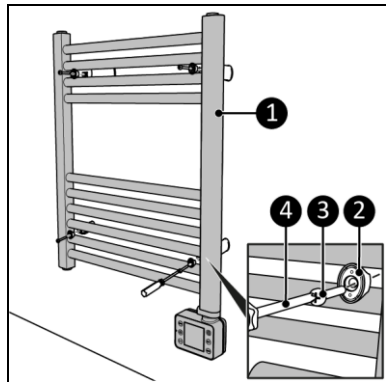

Figure 10
10. Place the device (Figure 10, pos. 1) over the wall brackets.
11. Screw and tighten the device with four large screws (Figure 10, pos. 3) to the wall bracket (Figure 10, pos. 2) using a Phillips screwdriver (Figure 10, pos. 4).
12. Place the four sealing caps (Figure 10, pos. 5).